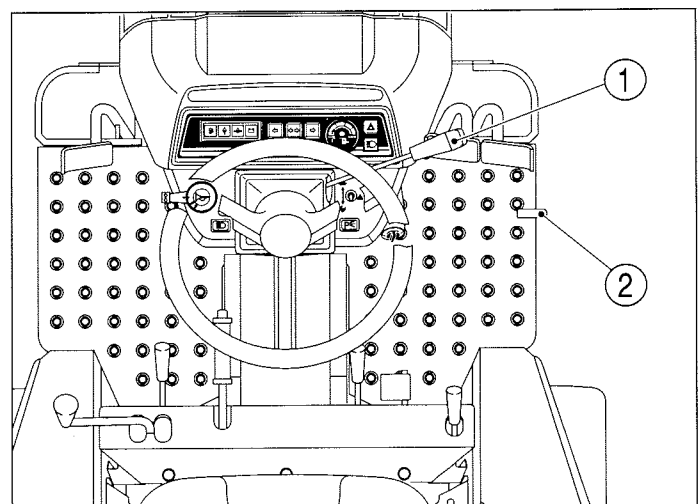

FIG. 23
FIG. 23: **Throttle lever (1)** - Controls engine speed and will remain in position selected by the operator. With hand lever forward (➡), engine will idle. Engine speed increases as lever is pulled progressively rearward (←).
**Accelerator pedal (2)** - Will override setting of the throttle lever level for increased engine speed. When